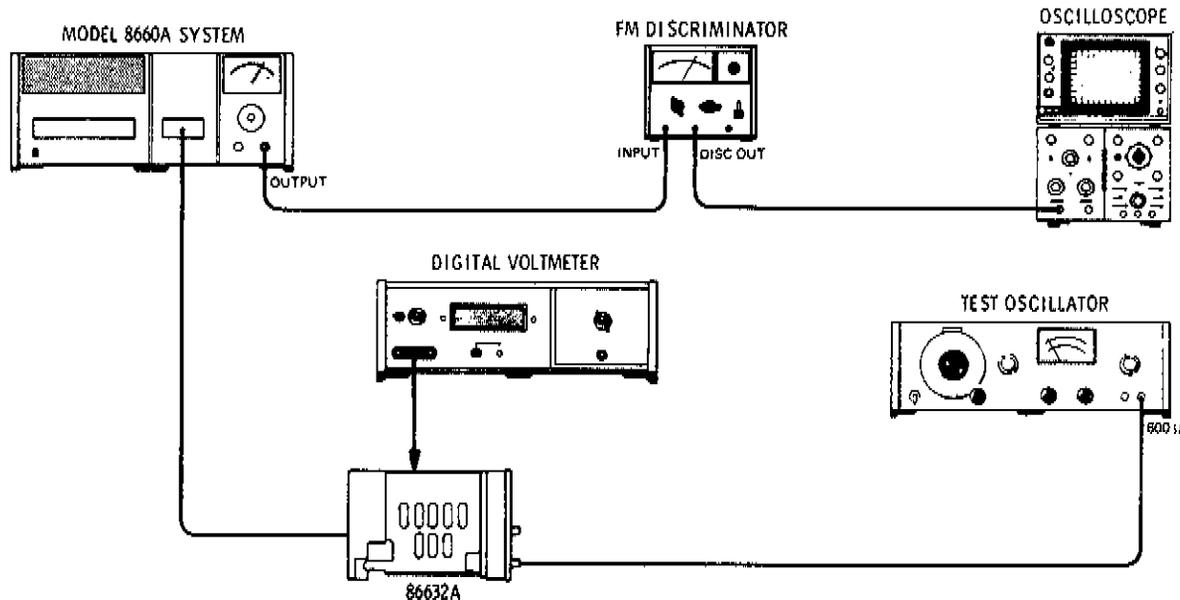

Figure 5-4. FM Deviation Attenuator Adjustments Setup
9. Connect the equipment as shown in Figure 5-4.